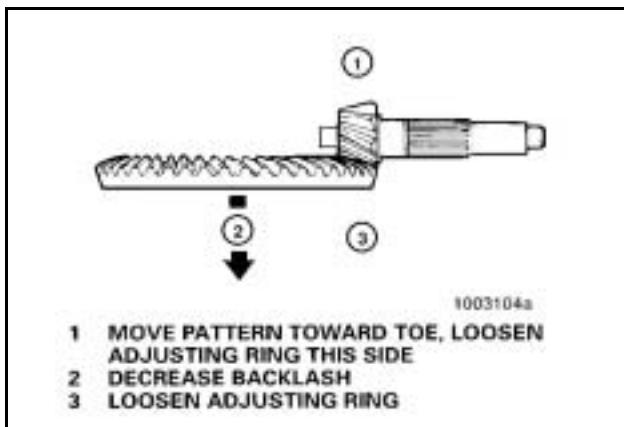

Figure 122
- b. Increase backlash to move the contact patterns toward the heel of the ring gear teeth. **Figure 122**.